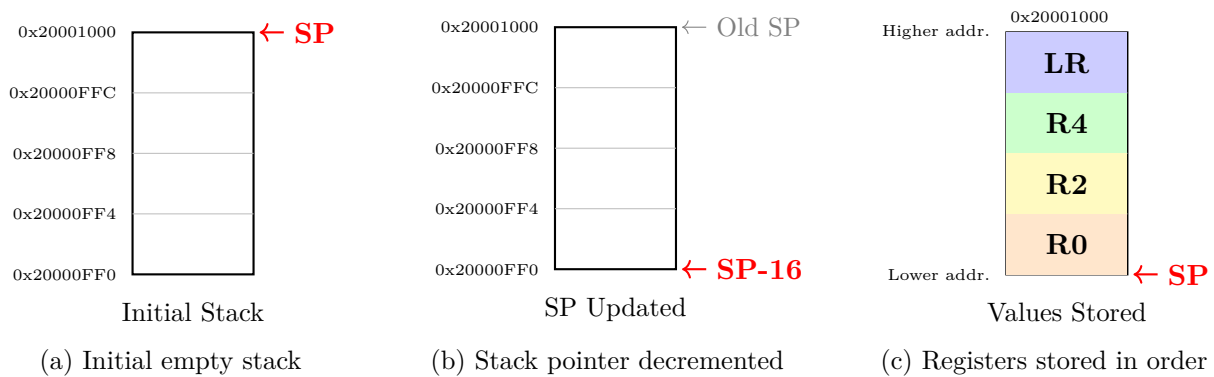

Figure 3.1: Stack operation sequence for **PUSH {R4, R0, R2, LR}**
Explanation: Figure 3.1(a) shows the empty stack with **SP** at the top (highest address). When **PUSH** executes, the processor **decrements SP by 16 bytes** to reserve space for four registers (Figure 3.1(b)). Finally, in Figure 3.1(c), values are stored according to the rule: the lowest-numbered register (R0) at the lowest address, then R2 and R4, and the highest-numbered (LR) at the highest address. Because the stack grows downward, **SP** points to the last written word after the operation.